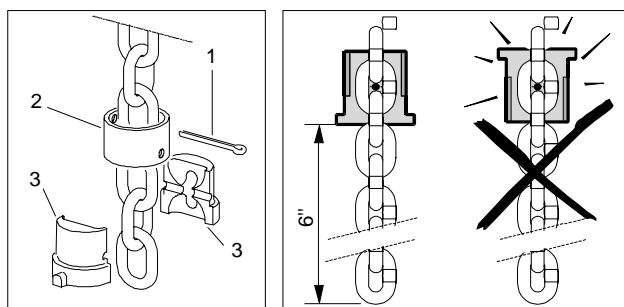

Figure 4-7
2. Properly position the two halves of the stop around the chain (Figure 4-7), locating it approximately six inches from the free end of the load chain.
Note: Make sure that the stop is correctly fitted to the chain as illustrated in Figure 4-7. The locking tube shall be turned towards the hoist.